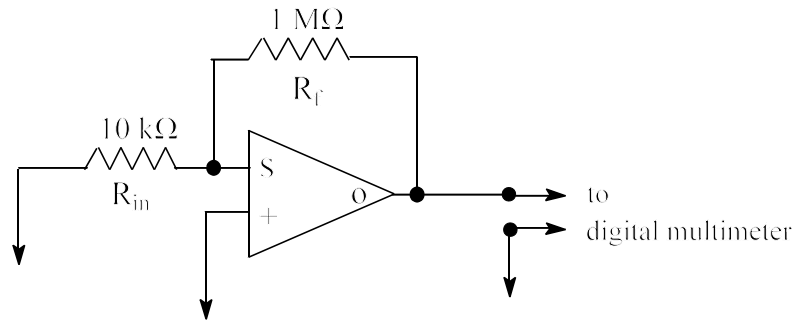
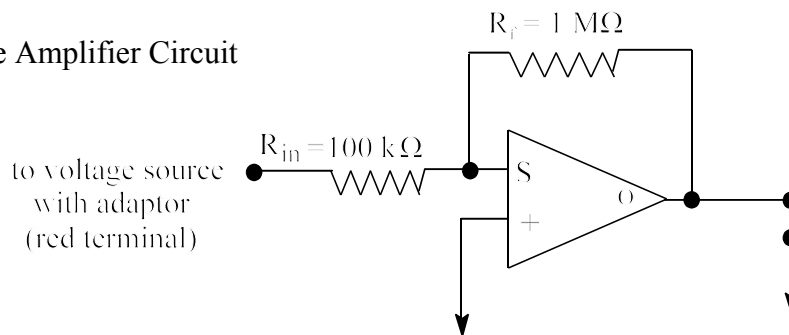

Figure 2. Schematic for balancing the OA
Figure 4. Voltage amplifier circuit (gain of  $10^6/10^5 = 10$ )
As illustrated in Figure 2 for example, OA's are most commonly used with the **output (O)** connected to the **summing point (S)** through some feedback component or element (e.g, resistor, capacitor, or diode). The device works to hold the summing point at essentially ground potential. No current flows into or out of the inputs of the amplifier (except for a small negligible leakage current). The inputs on the OA are used only to sense the voltage at the points selected by the user for some circuit. The **output voltage ( $E_o$ )** generated by the amplifier in the feedback configuration is such that the current through the feedback component or element is equal to the algebraic sum of all the input currents into or away from the summing point.
Each team member at your station should get practice with this operation. Balance OA1 with the following procedure. Wire up a gain of 100 amplifier as shown in Figure 2. This is a high gain and will reveal if zero in is really zero out.
Wire up OA1 as shown in Figure 4 with a 10 gain. Note that this is the same circuit as Fig. 2 except that  $R_{in}$  is connected to the voltage source instead of to ground and a 100 k $\Omega$  input resistor replaces the 10 k $\Omega$  resistor.